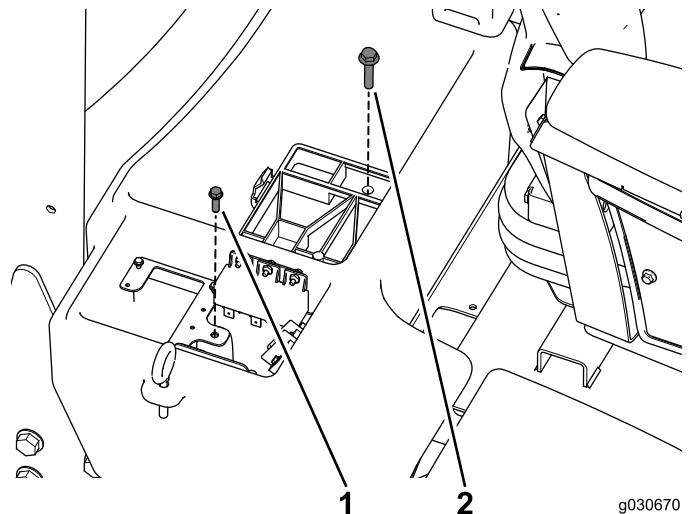

Figure 3
4. Remove the screw securing the wiring-harness plate and the bolt securing the battery compartment (Figure 3) and set them aside.